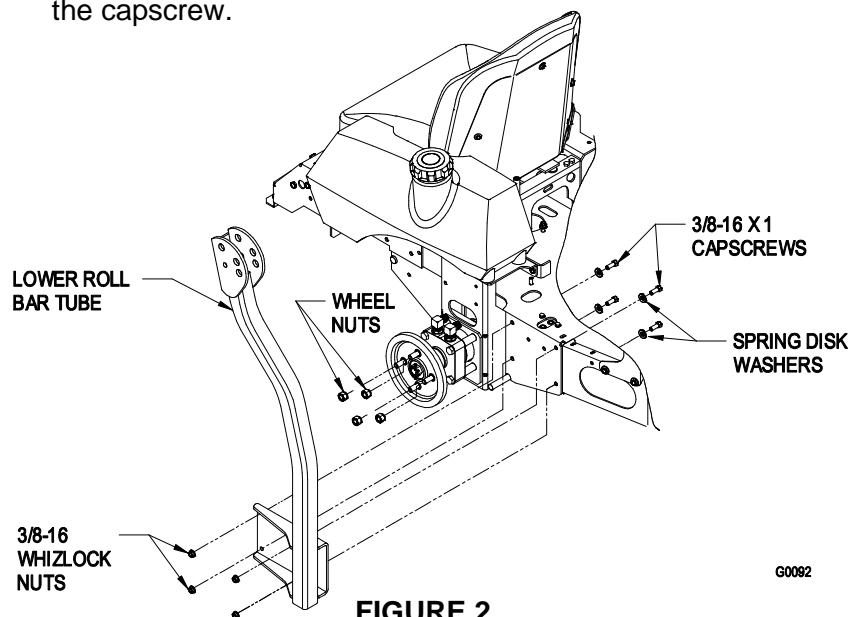

FIGURE 2
- b) Align lower roll bar tubes along wheel motor channels as shown in Figure 2.
- c) **LOOSELY** install lower roll bar hardware (four 3/8-16 x 1 capscrows, four spring disk washers and four 3/8-16 whizlock nuts) from the bolt bag to the tubes on each side as shown in Figure 2: